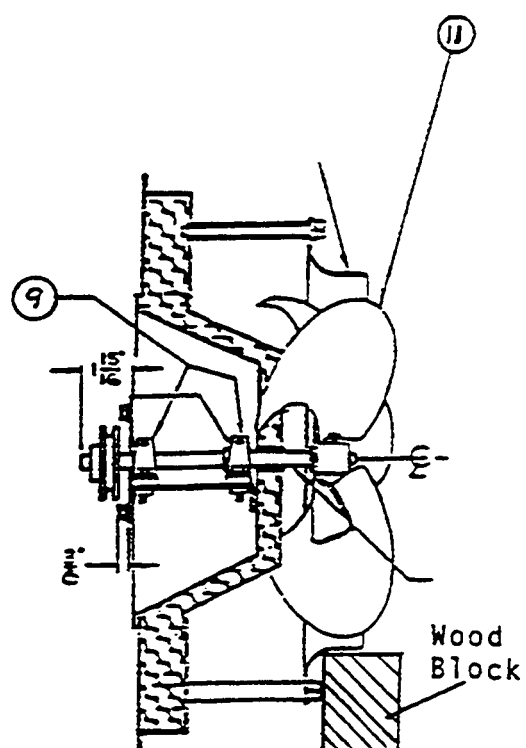

Figure 84
10. Install pulley (Item 7) on fan shaft and position fan shaft per dimension shown in Figure 84 ( $3/8^{1*}$ ). Align the flats which are machined on fan shaft with the bearing set screw holes called out in Figure 86. Apply High Temperature Loctite, type RC 620 on bearing set screws and then tighten set screws. Recbeck fan shaft for free rotation.
13. Recheck fan shaft rotation before installing back wall to oven cavity. Be sure fan assembly has adequate clearance inside orifice ring (Fig. 84) and **is** not rubbing.